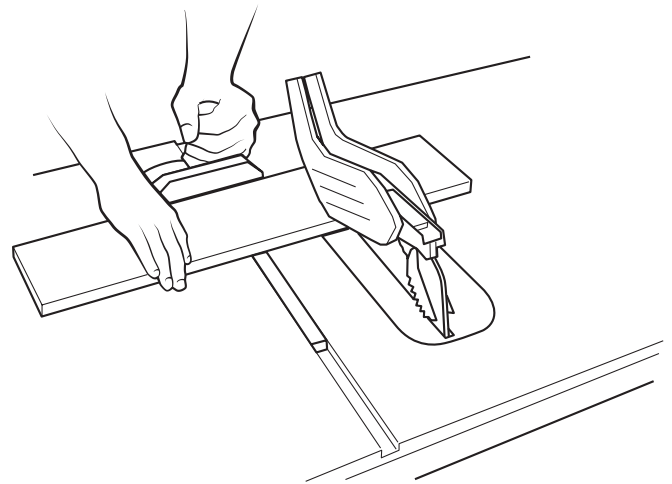

FIGURE 25
TO MAKE A CROSSCUT, REFER TO FIGURE 25 AND FOLLOW THIS PROCESS:
Bevel crosscutting is the same as crosscutting except the bevel angle (A) is set to an angle other than 0° . When making a bevel crosscut, place the miter gauge in the right miter slot so that the blade is tilted away from the gauge and hands (FIGURE 25).